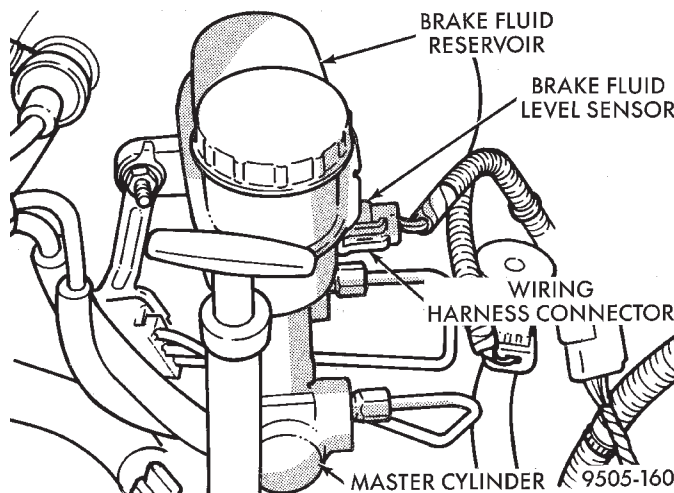

**Fig. 150 Master Cylinder Fluid Level Sensor**
(1) Remove wiring harness connector from brake fluid reservoir level sensor (Fig. 150).